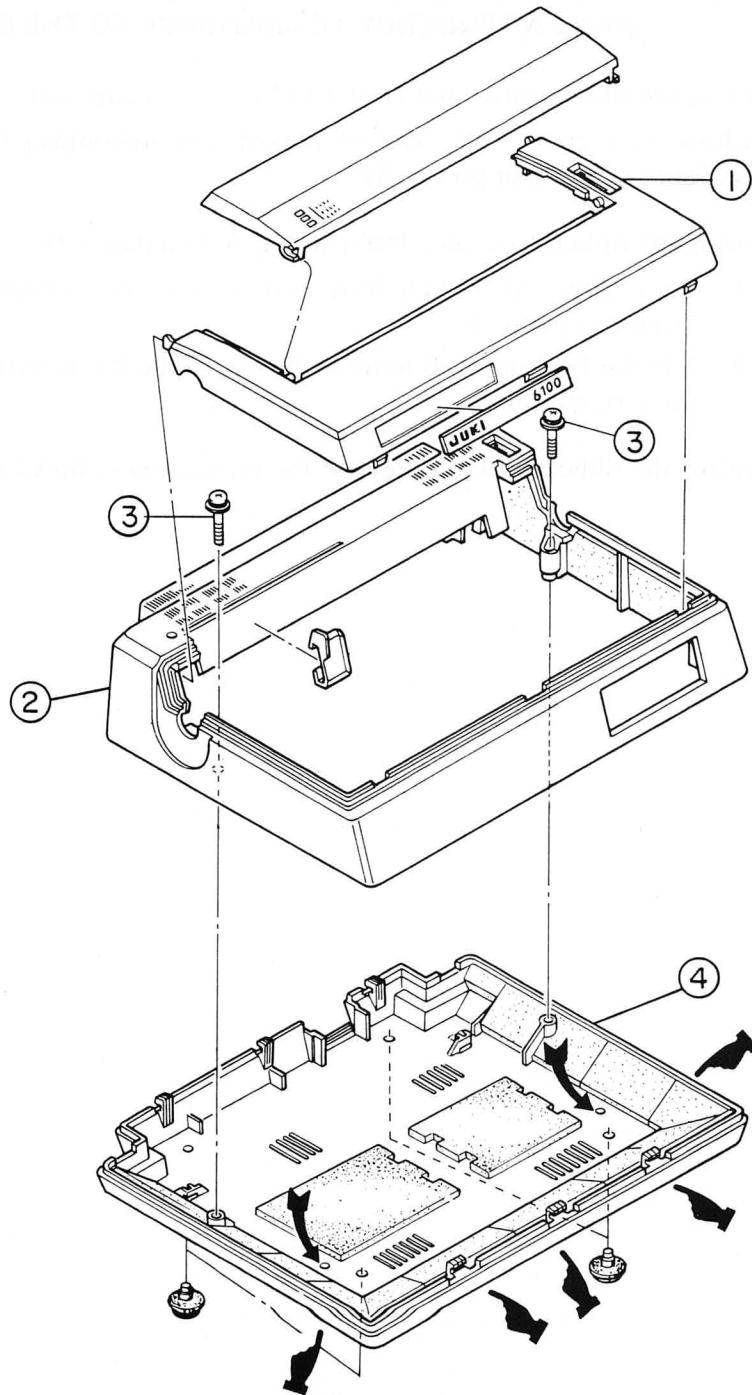

Fig. 5.1
5.2.1 Removing the covers (Refer to Fig. 5.1 on Page 10 and Page 13)